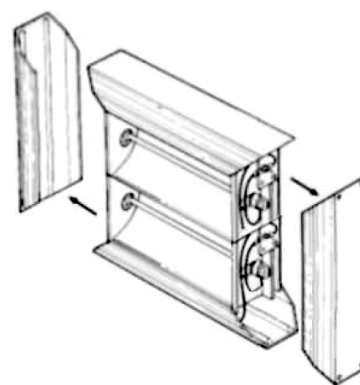

Fig. 2
4. Remove the panels to expose the lamp connections (see Fig. 2) .